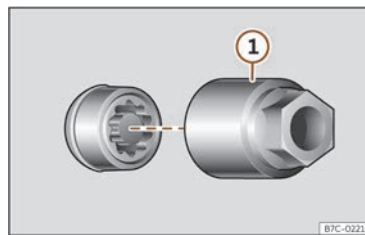

Fig. 232 Anti-theft wheel bolt with cap and adapter.
- Insert the special adapter >>> **Fig. 232 ①** (vehicle tools >>> page 303) onto the anti-theft wheel bolt and push it on as far as it will go.